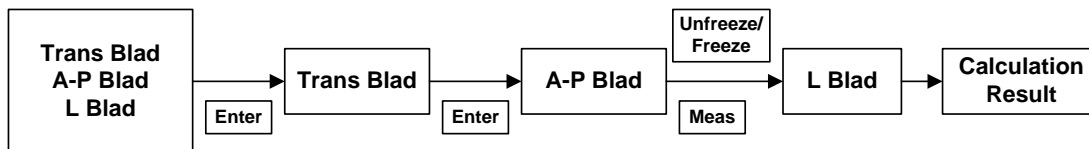

Figure 121: Scheme for the ongoing measurement process
**Example:** To measure the amount of residual urine, the user only has to go to the relevant sections. After selecting **Trans AU Blad (transverse diameter of the urinary bladder after urination)**, the remaining two diameter measurements are completed directly and continuously. The measuring procedure is shown in Figure 121.